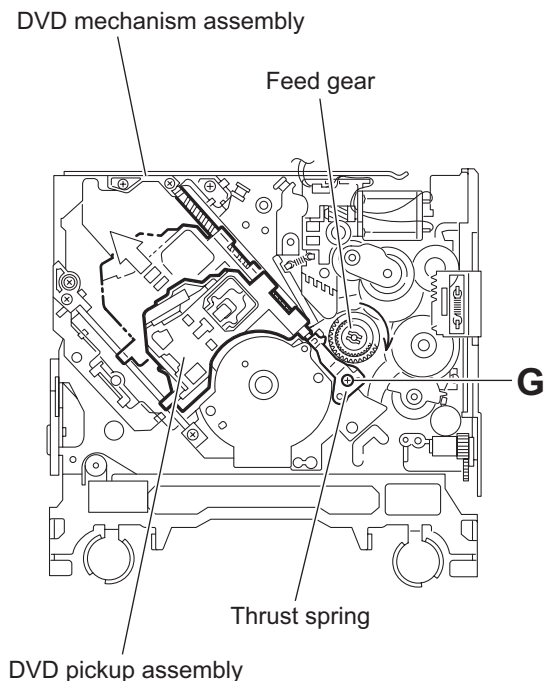

Fig.17
3.4.9 Removing the DVD pickup (See Figs.17 to 19)
- (1) From the bottom of the body, turn the feed gear in the direction of the arrow to move the DVD pickup outwards. (See Fig.17.)
- (2) Remove the screw **G** attaching the thrust spring. (See Fig.17.)